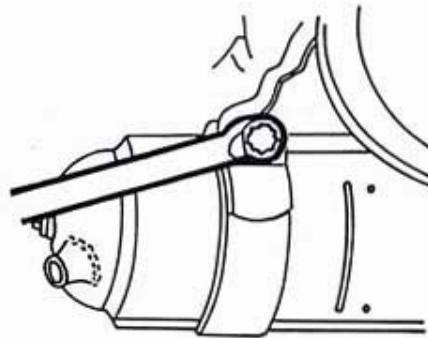

Fig. 2
- Loosen the nut (10mm and 11mm wrenches) and remove the exhaust clamp nut, but do not remove the spacer between the engine mountings (fig. 2).